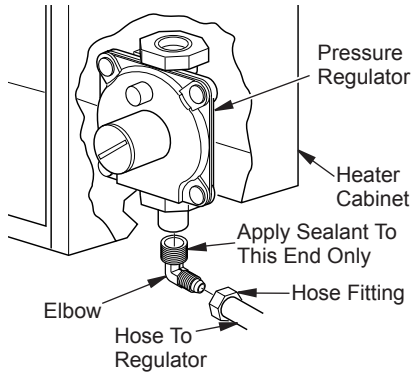

Figure 10 - Gas Connection
2. Apply pipe joint sealant lightly to male NPT threads (see Figure 10). This will prevent excess sealant from going into pipe. Excess sealant in pipe could result in clogged heater valves.